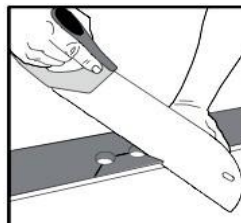

Figure 2.
2. Floor expansion and contraction requires perimeter expansion of 12 – 15mm for floating installations. Width areas greater than > 6m and long runs greater than >11m will require installation of expansion and transmission joints. Allow, 1 - 2 mm expansion gap for every extra 1 m of width as a guideline. **Note; caulking will hinder natural floor movement, it should not be used.** Adequate space around heating and service ducts should be created to allow the floor to expand and contract. **Refer Figure 2 & 3.**